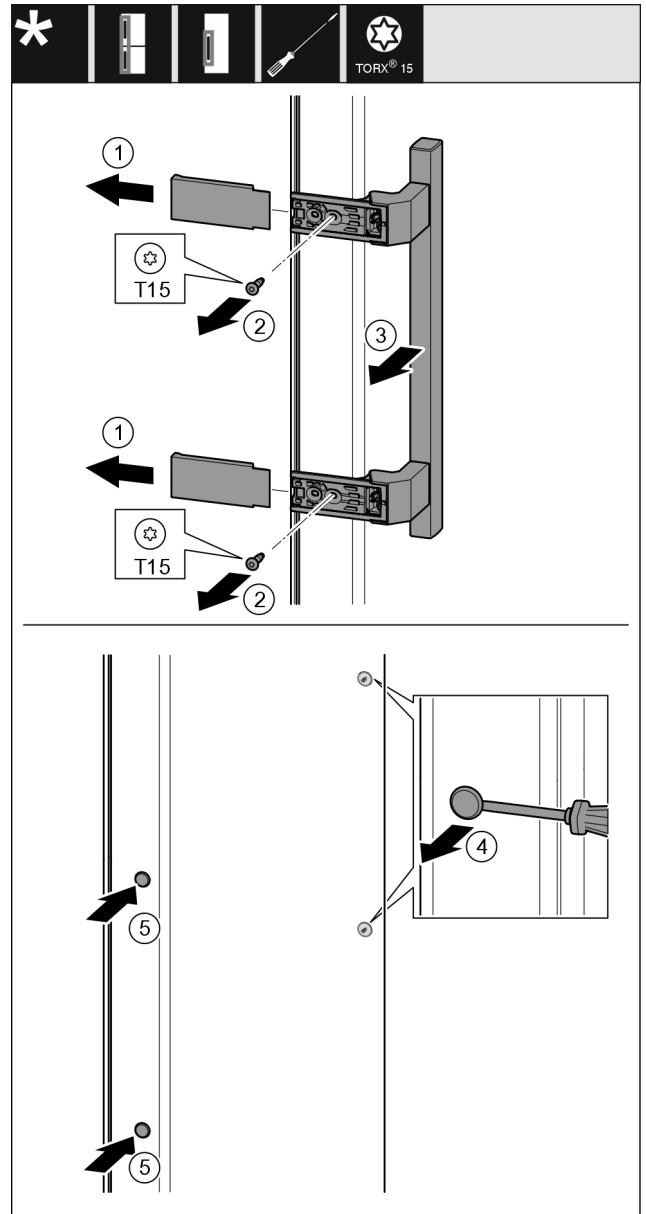

Fig. 22
- ▶ Remove the cover Fig. 22 (1).
- ▶ Unscrew screws Fig. 22 (2) with screwdriver.
- ▶ Remove the handle Fig. 22 (3).
- ▶ Use a slotted screwdriver to lift the side plug Fig. 22 (4) carefully and pull it out.
- ▶ Re-insert the plug Fig. 22 (5) on the other side.